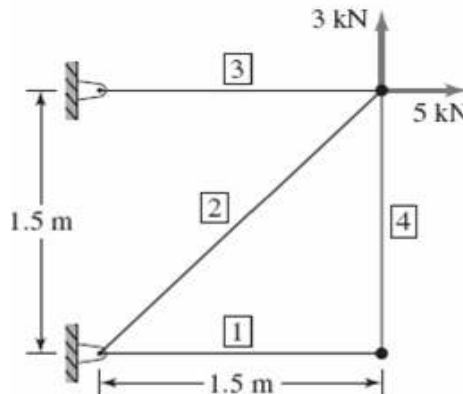

Fig.5
- (b) The plane truss shown in fig.5 is composed of members having a square 15mm x 15mm cross section and modulus of elasticity $E=69\text{GPa}$. 07